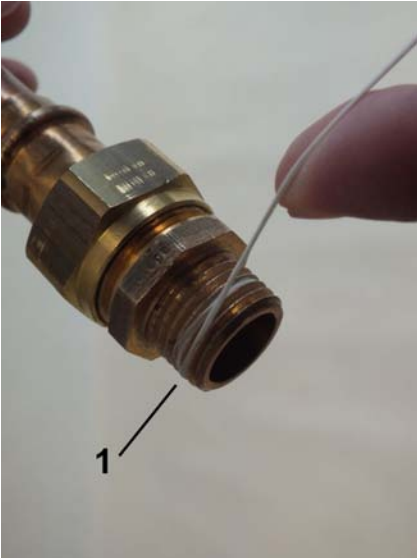

Fig. 8: Apply sealing thread
- #### 2. ▸ Apply sealing thread (Fig. 8/1) to the napped area in the threaded direction. Observe the quantity recommended by the sealant manufacturer.